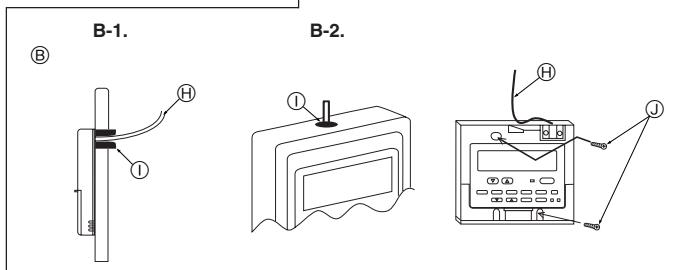

Fig. 6-9
(2) Seal the service entrance for the remote controller cord with putty to prevent possible invasion of dew drops, water, cockroaches or worms. (Fig. 6-9)